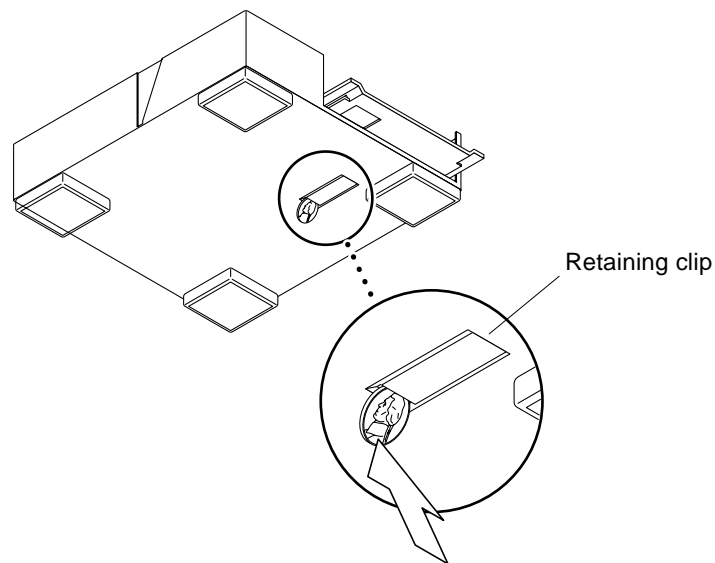

Figure 2-6 Disengaging the Retaining Clip
- 3. Disengage the retaining clip on the bottom of the DDP by reaching under the DDP and pulling down on the clip to clear it from the mounting plate. You can use a coin to pull down the clip so you can slide out the mounting plate. See Figure 2-6.**